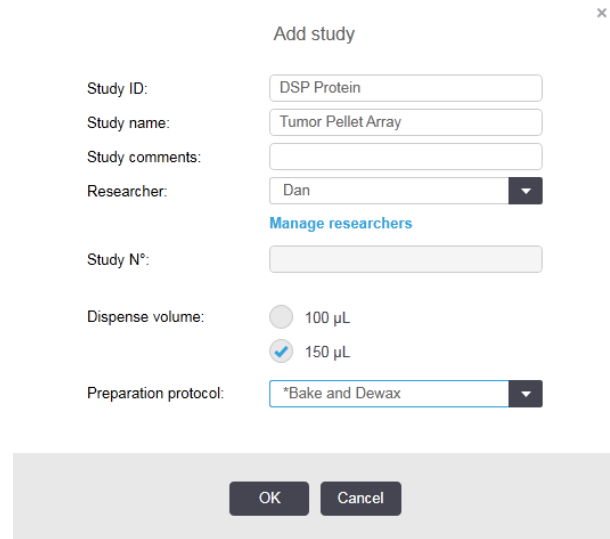

Figure 19: Add study window
3. In the **Add study** window (see Figure 19), enter your study information.